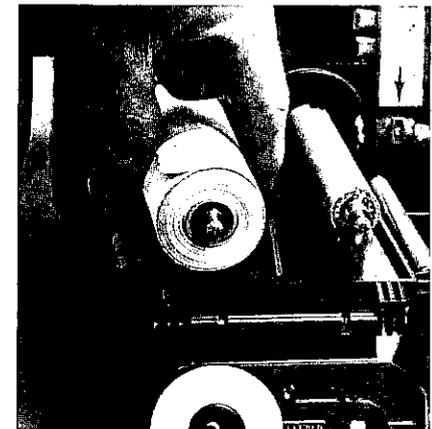

Figure 22
5. To remove the full take-up roll and the empty supply spool, press the two metal tabs together on the top of the platen assembly, and pull out and down on the paper retainer. (See Figure 21.) The full take-up roll can now be easily removed from the paper core shafts. (See Figure 22.)